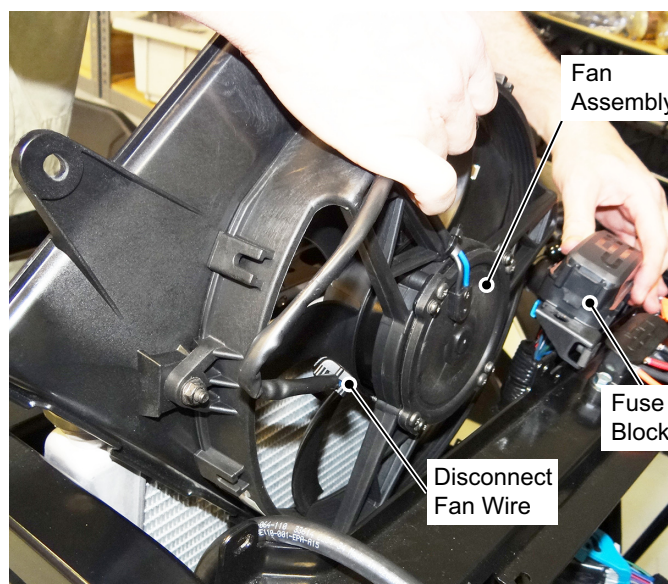

Fig. 7 Fuse Block
5. Use pliers to remove pressure from the upper radiator hose clamp while sliding the clamp away from the hose connection (Ref. Fig. 7). Carefully pull the radiator hose off of the upper radiator outlet
7. Remove the bolts securing the front fuse block to the vehicle. Move the fuse block out of the way (Ref. Fig. 7).
8. Disconnect the wire from the radiator fan (Ref. Fig. 7).